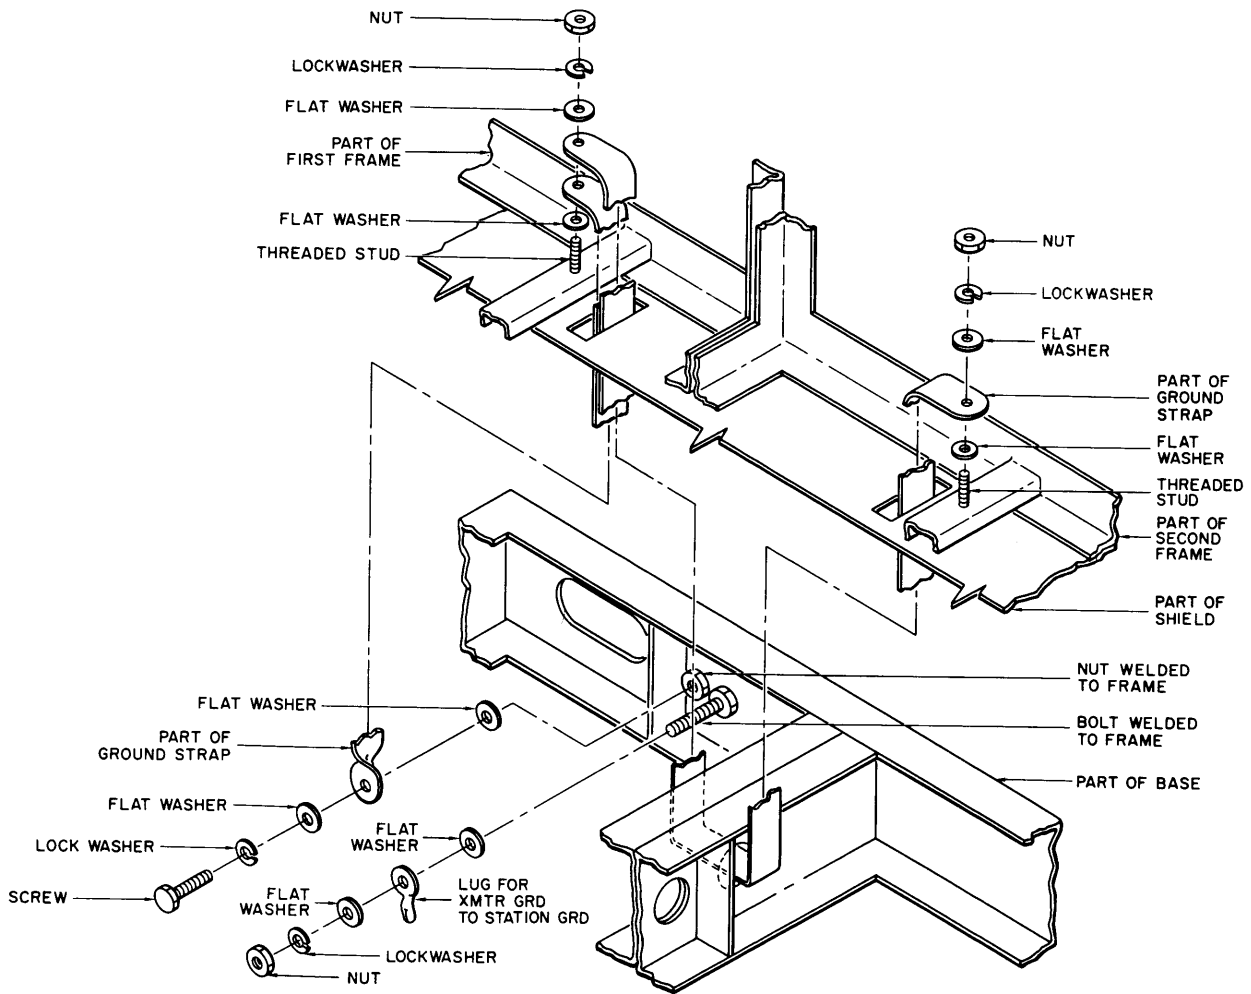

Figure 2-5. Ground Straps, Installation Diagram
Using hardware from crate 1 (bag - Grounding Strap Mounting Kit) bolt grounding straps (contained in crate 1), as indicated in figure 2-5 to the base assembly.
k. Mount grounding straps to threaded studs in bottom rear of frames, figure 2-5, using remaining hardware used in step 3.